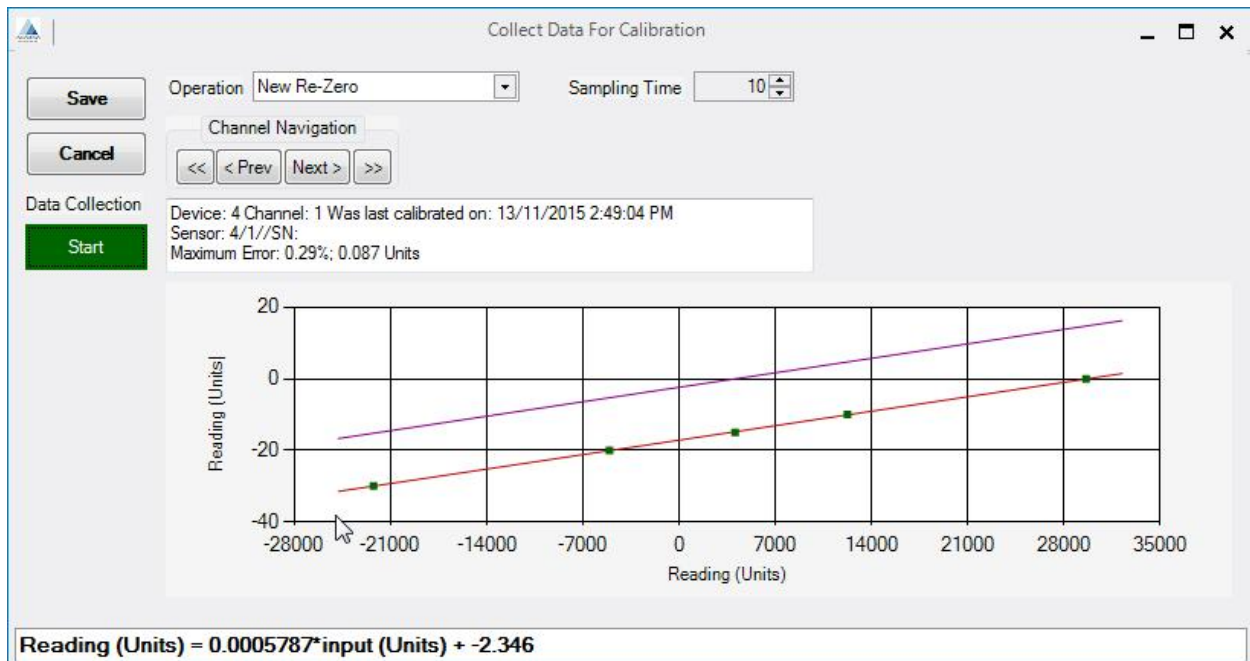

Figure 50: Calibration with Re-zero Curve
- After re-zeroing the sensor to adjust the 0 position (see Figure 50).